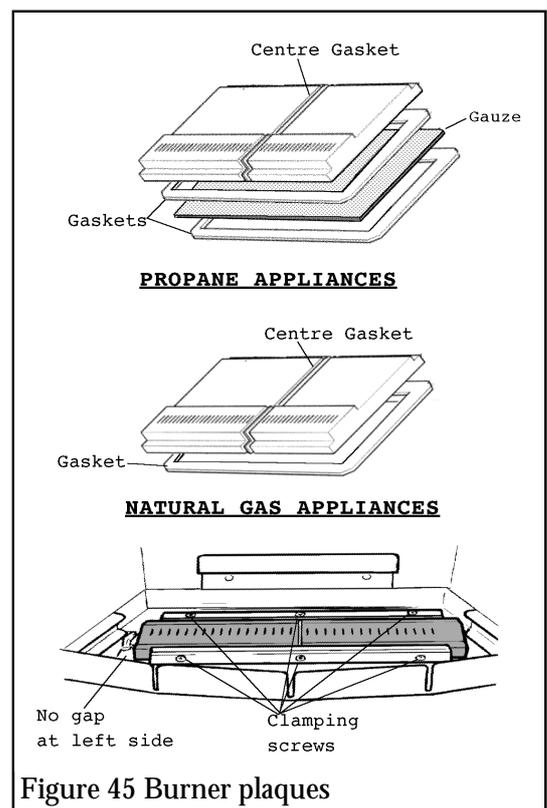

Figure 45 Burner plaques
15.1 To Replace Burner Plaques (See Figure 45)